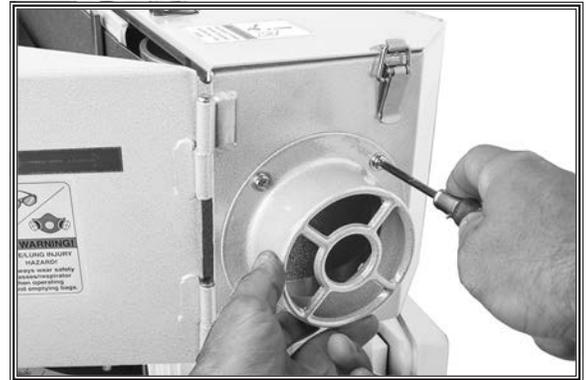

Figure 9. Installing right dust port.
12. Insert Phillips head screws and washers through aligned holes and tighten (see **Figure 9**).